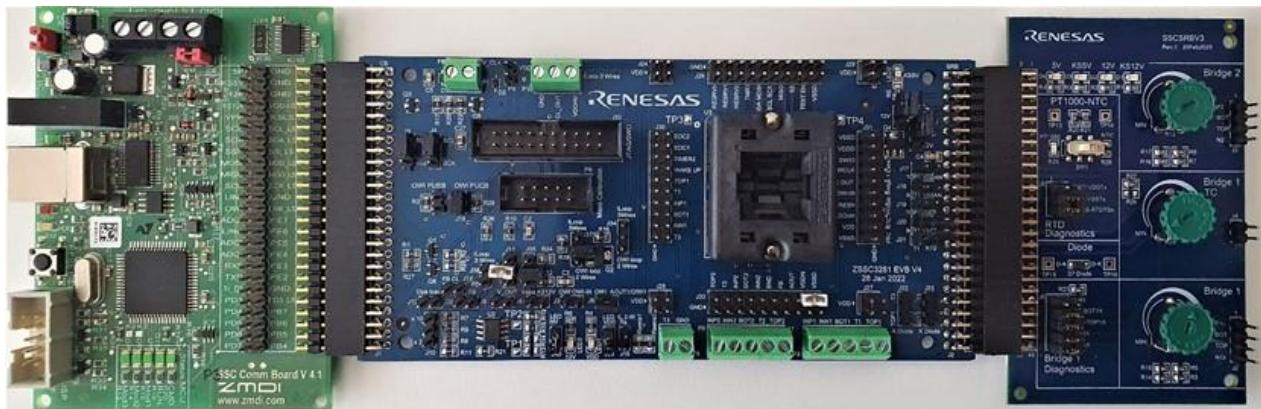

Figure 1. ZSSC3281 SSC Evaluation Kit – Overview
Follow these steps to assemble the three PCBs as shown in Figure 1 to start-up of the kit with default settings:
1. Connect the kit as described in Figure 1 and connect the USB cable to the host PC